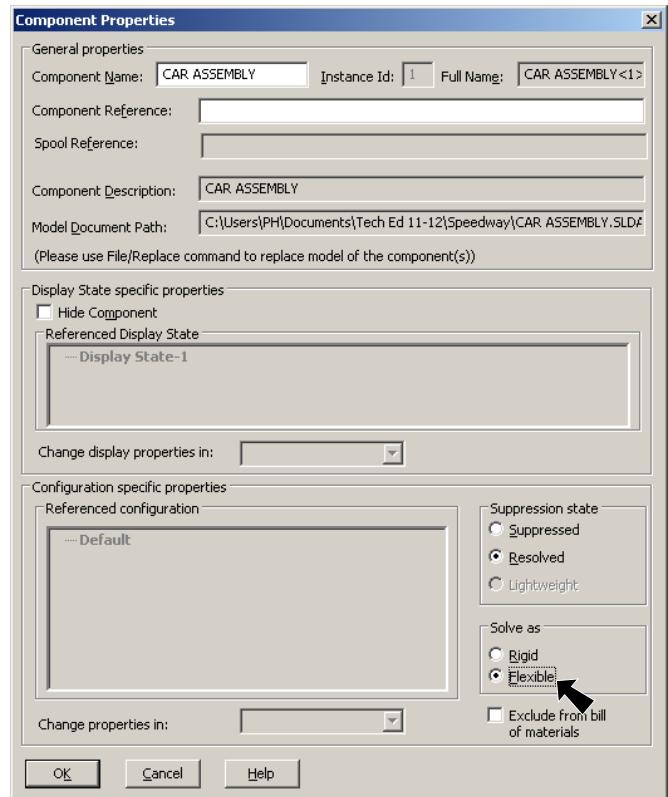

Fig. 4
- Step 2. In the Component Properties dialog box set: **Solve as to Flexible**, Fig. 4 click OK.